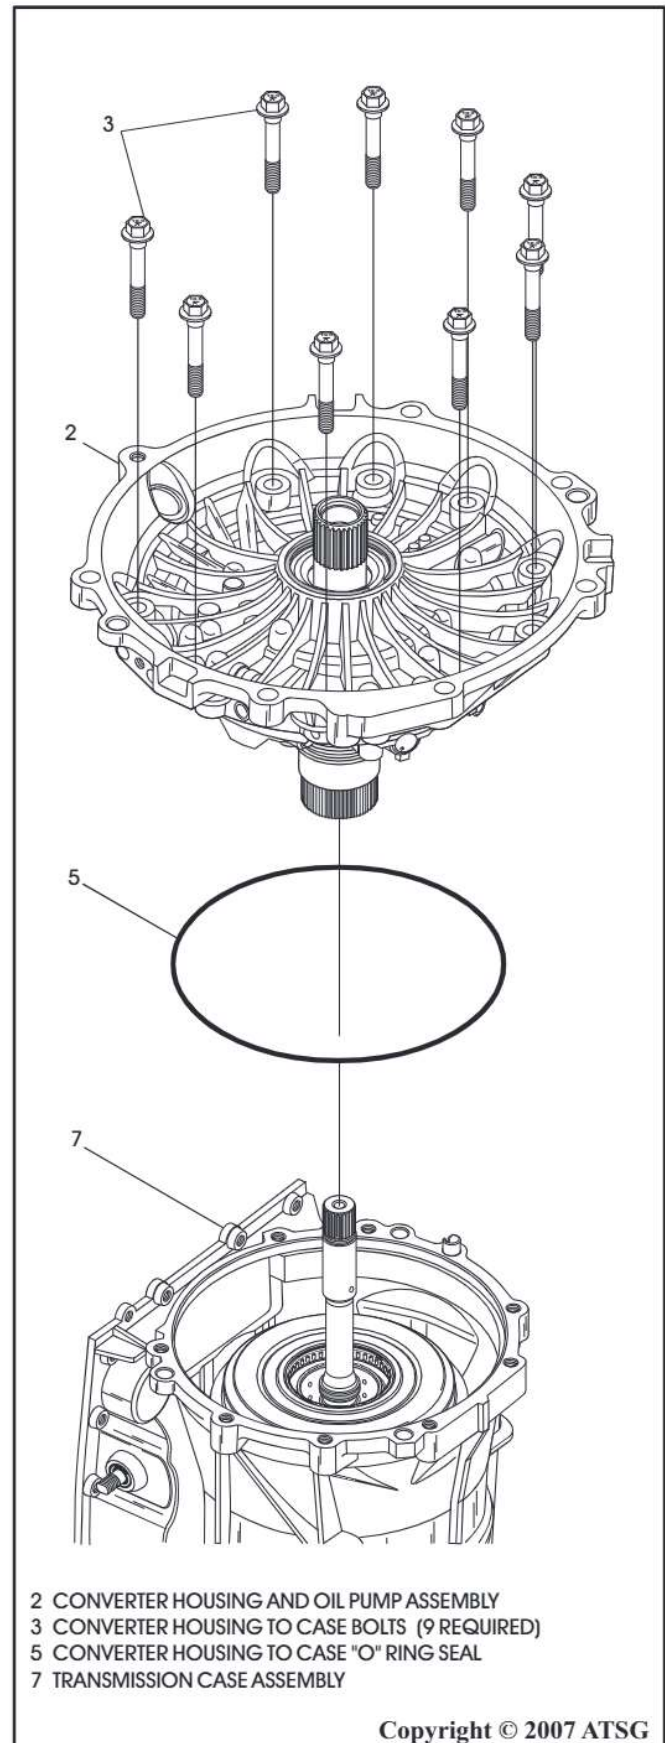

Figure 44
1. Rotate the transmission so that the converter housing is facing up, as shown in Figure 44.
3. Remove the nine converter housing to case bolts, as shown in Figure 44.
4. Remove the converter housing and oil pump assembly, as shown in Figure 44.
5. Remove and discard the converter housing to case "O" ring seal, as shown in Figure 44.